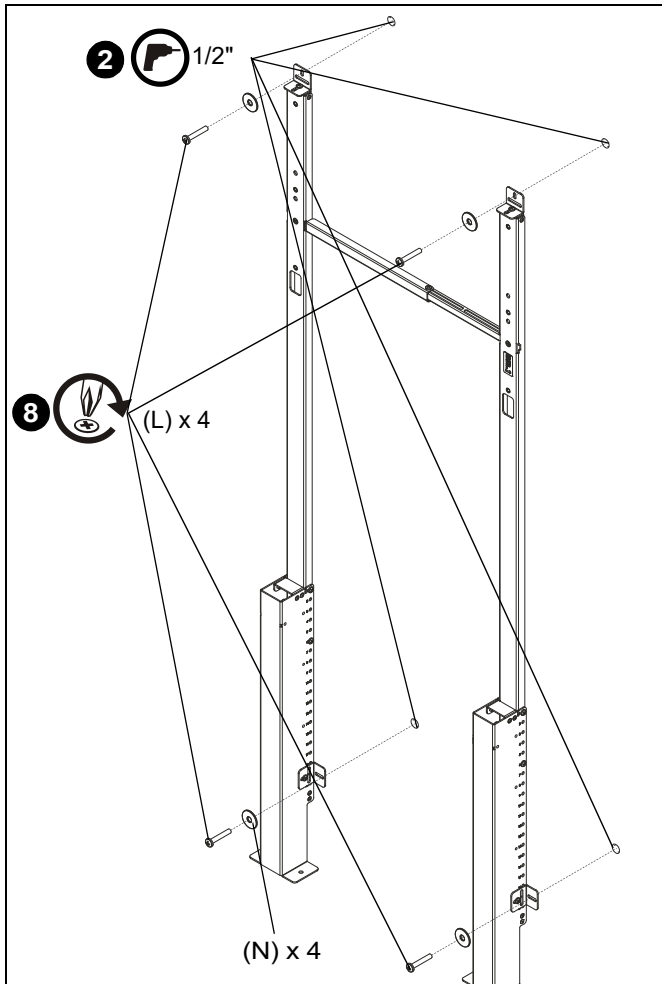

Figure 10
1. Mark hole locations at each mounting location based on locations of wall brackets (F) and steel studs. Use a level to ensure of an even mount. (See Figure 10)
2. Drill 1/2" holes on marked hole locations. (See Figure 10)
8. Use four 1/4-20 x 1 3/4" Phillips pan machine screws (L) and four 1/4" washers (N) to secure wall brackets (F) to wall. (See Figure 10)